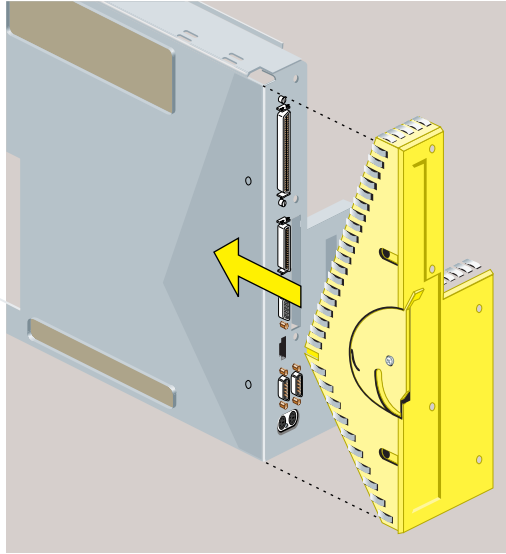

Figure 2-41 Replacing the Face Plate
- Align the face plate on the system module (Figure 2-41).